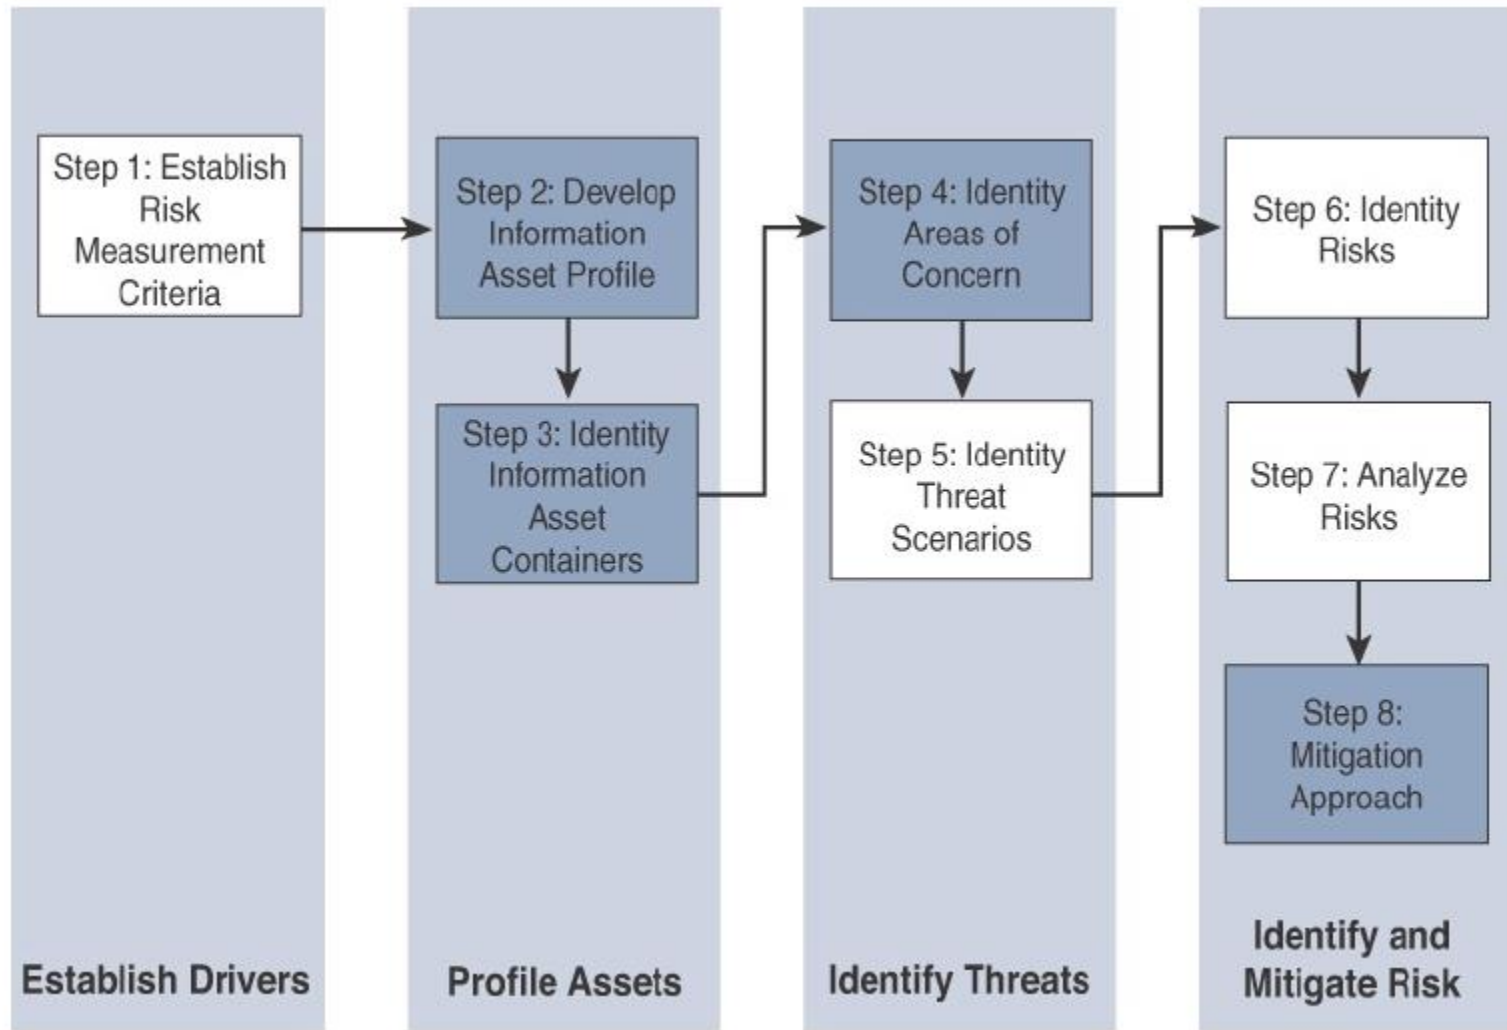

Figure 8.5 : OCTAVE Allegro Steps and Phases
- The figure 8.5 illustrates the **OCTAVE Allegro steps and phases**.